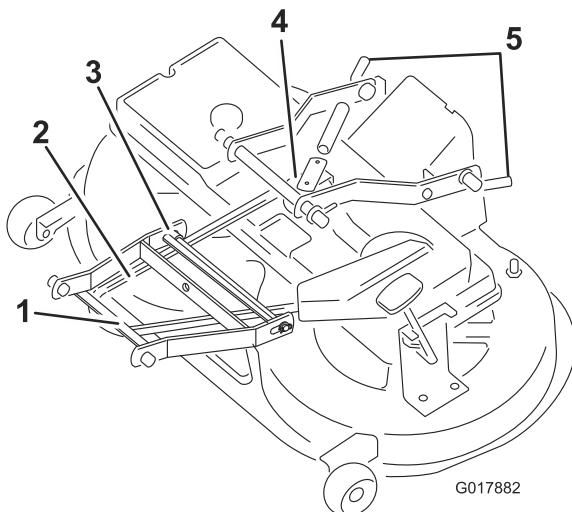

Figure 45
11. Remove the pin between the front arm linkage and the mower housing (Figure 45).
12. Remove the V-belt from the engine pulley (Figure 45).
9. Pull the idler arm assembly inward and remove the V-belt from the pulley (Figure 45).